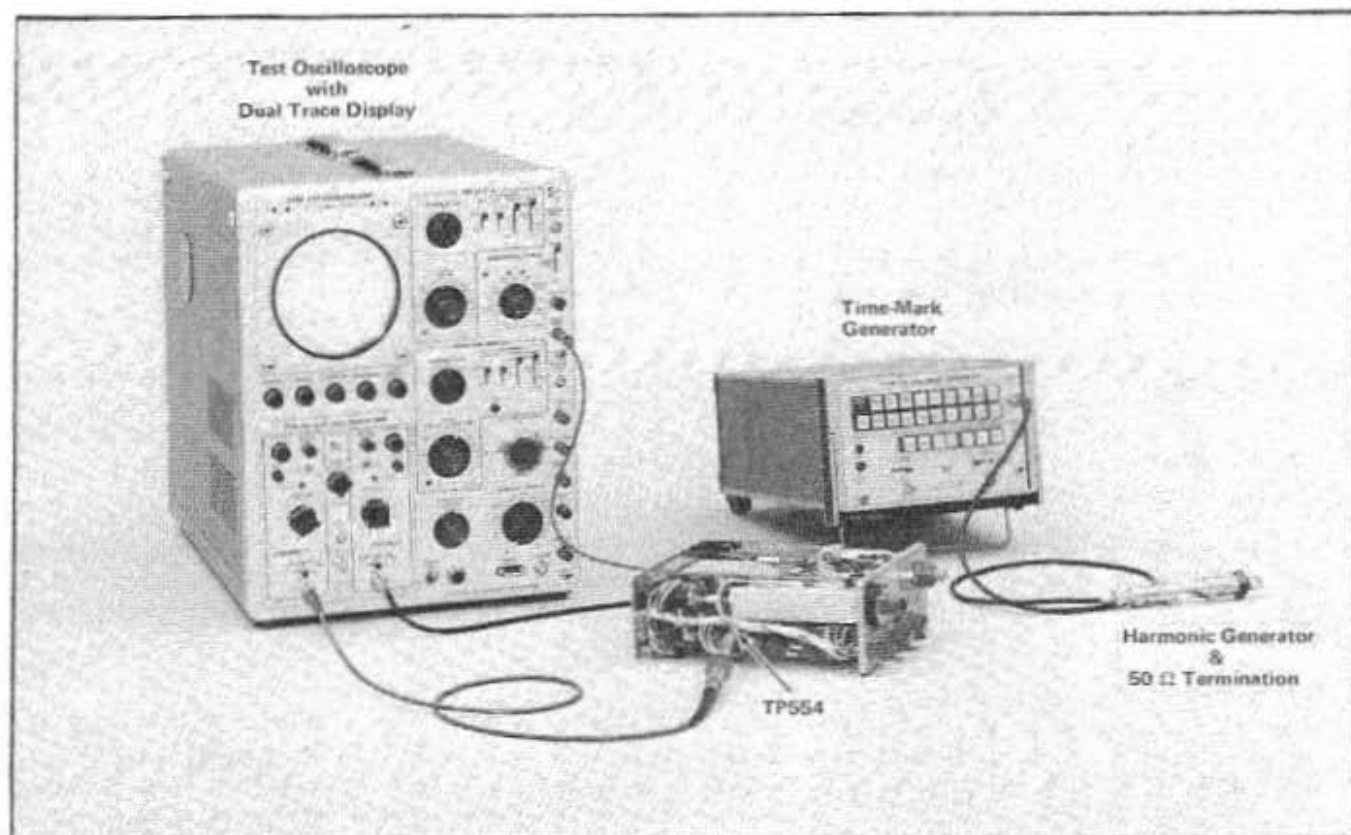

Fig. 6-10. Equipment setup for frequency span and center frequency adjustments.
1) Test equipment setup is shown in Fig. 6-10.